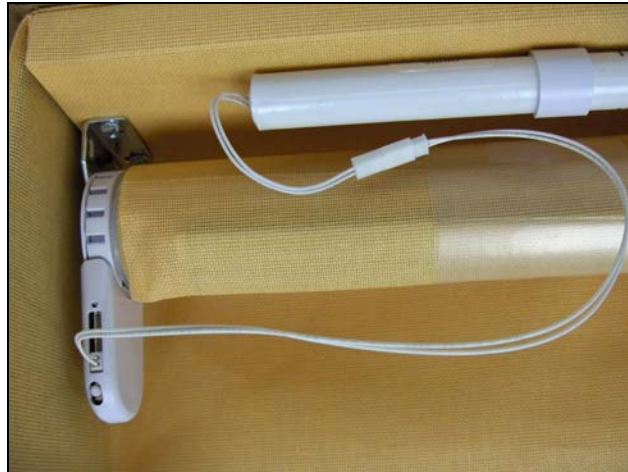

Figure 11 Motor connected to battery wand (back view)
- Connect the motor lead to the battery wand. See Figure 11.